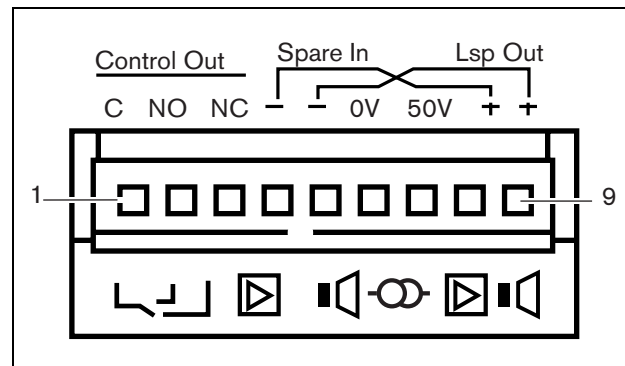

figure 8.3: Amplifier channel connector
An amplifier channel (see figure 8.3) is a group of outgoing signals that have been processed by the same amplifier unit of the power amplifier. The number of amplifier channels depends on the type of power amplifier (see table 8.2)
Each amplifier channel has one control output. The control output can be used to send signals to third party equipment to trigger actions. Each control output has three pins (see figure 8.3). The common (C) pin of the control output should always be connected. Whether the other pin that is connected is the normally closed (NC) or normally open (NO) depends on which action you want to take place when the control output is active (see table 8.4).